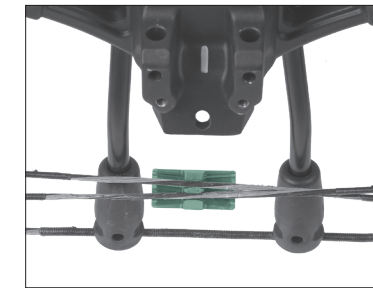

FIGURE 3
- 1a** Attach the cable slide to the cables so that the cables cross on the left side of the riser. (Fig. 3)